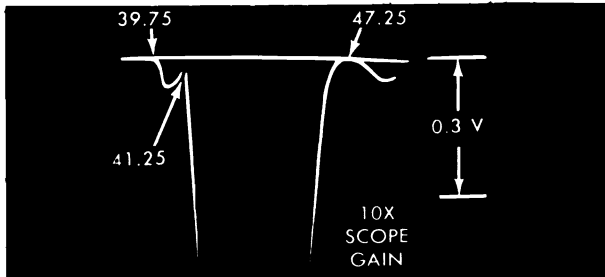
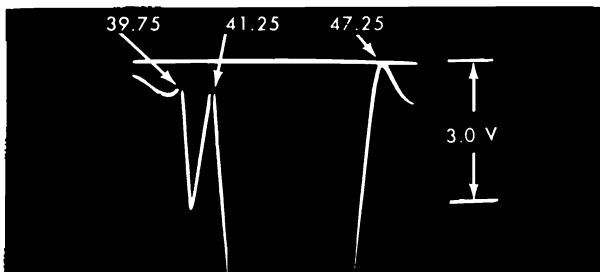
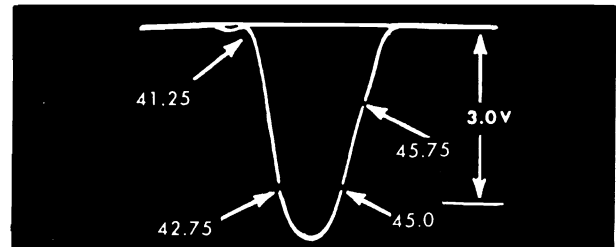

Fig. 3. Expanded View of Traps
Fig. 4. Further Expansion of Fig. 3. for Detail View of the 39.75 and 47.35 Mc Traps.
Fig.5 Overall IF Response Curve.
5. Connect the sweep generator to terminal "A" (converter grid). Connect terminal "F" to chassis and connect a jumper between terminal "E" and chassis. Adjust the sweep to obtain a 3V. P.P. response similar to Fig. 5. Switch oscilloscope to 10X gain to "blow up" the traps (Fig 3).
6. Refer to Fig.3. and adjust the 39.75 Mc and the 41.25 Mc traps for minimum marker amplitude. Connect jumper between "E" and the junction of the 68 ohm and 1800 ohm resistors in the cathode circuit of the 1st I.F. This provides an additional "blow up" of the 47.25 Mc traps (Fig. 4). Adjust the 47.25 MC trap for minimum marker amplitude.
7. Disconnect jumper between "E" and the 68 ohm and 1800 ohm cathode resistors. Connect this jumper between "E" and chassis. Adjust sweep generator for 3 volts peak to peak output at the second detector. Alternately, adjust the 2nd, 3rd, 1st IF and the converter plate coil until an overall response similar to Fig. 5. is obtained. It will be found that the 2nd IF affects the low side (42.75MC) and the 3rd IF, the high side of the response curve.